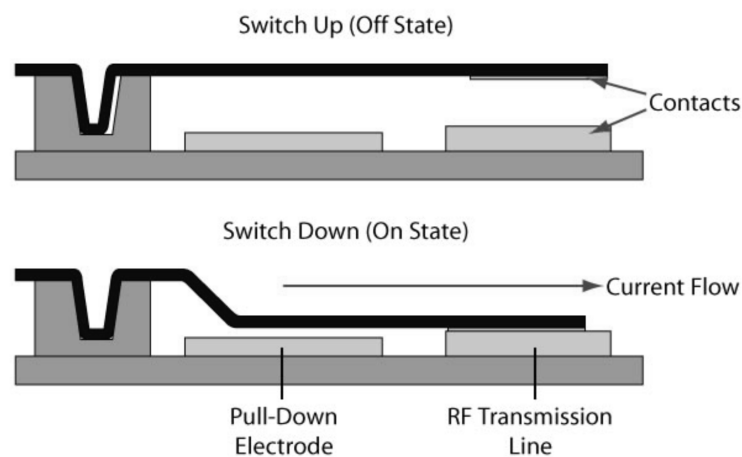

Figure 5[a]
5. [a] Figure 5[a] shows a **MEMS RF** switch which is one of the applications of a metal microcantilever. A microcantilever has been used as a switch due to its sensitivity to a miniscule amount of external force or stimuli.